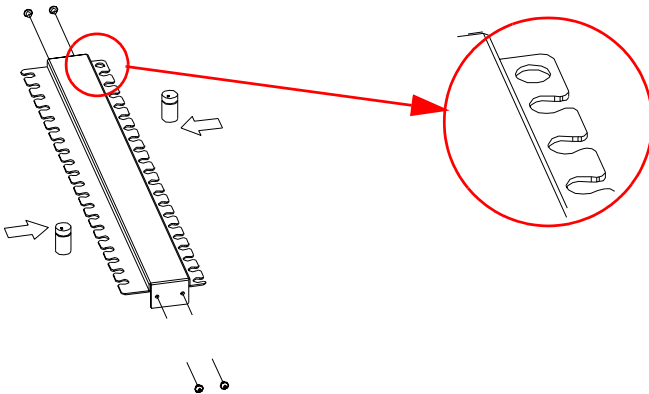

Figure 2.9: The circle hole should face the rear panel
2. Put the hold-down clamp back into its original position. Please note that the circle hole on the hold-down clamp faces towards the rear panel. (See Figure 2.9).
3. Undo the four screws of the cushions and lift up the IDE disk drive housing (See Figure 2.9).